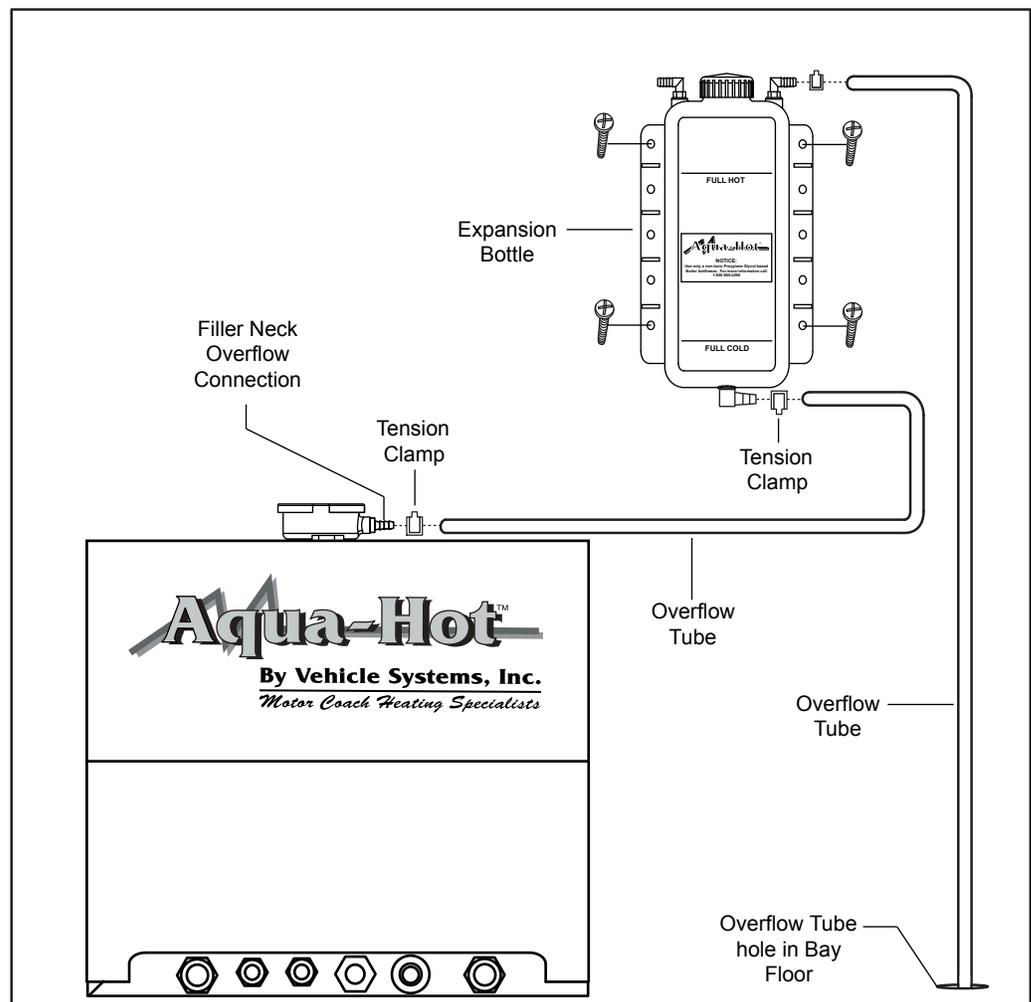

Figure 30
1. Mount the Expansion Bottle, as illustrated in Figure 30.
2. Connect and clamp the Overflow Tubing from the Expansion Bottle to the Aqua-Hot's Filler Neck Overflow Connection; reference Figure 30.
3. Drill a hole in the Bay floor and connect (secure with a clamp) a large enough piece of Overflow Tubing so that it can be connected to the top of the Expansion Bottle and extend through the Bay floor; reference Figure 30.